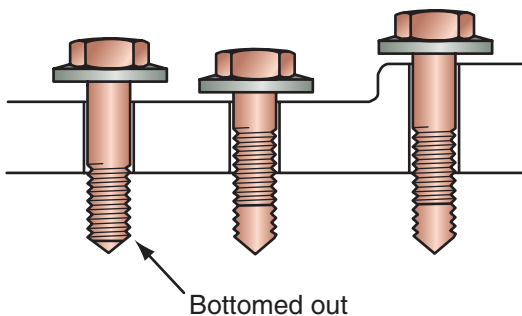

Figure 4-31 Use the right bolt lengths when reassembling any component. Copyright by American Honda Motor Co., Inc. and reprinted with permission.
- Bolt or screw lengths can vary for engine covers and cases (Figure 4-31). These different lengths must be installed at correct locations. If you're not sure, place the bolts in their holes and compare the exposed lengths. Each should be exposed the same amount. A bolt that is too long will bottom out and break or strip threads. A bolt that is too short will pull the threads out of the case. The exposed length of bolts should be at least 1.5 times their diameter.